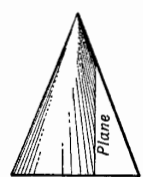

Fig. 64
65. A *Hyperbola* is a section made by a plane which passes through a cone vertically (parallel to and) at one side of its axis or at an angle with the base which is greater than that of the side. Fig. 64.